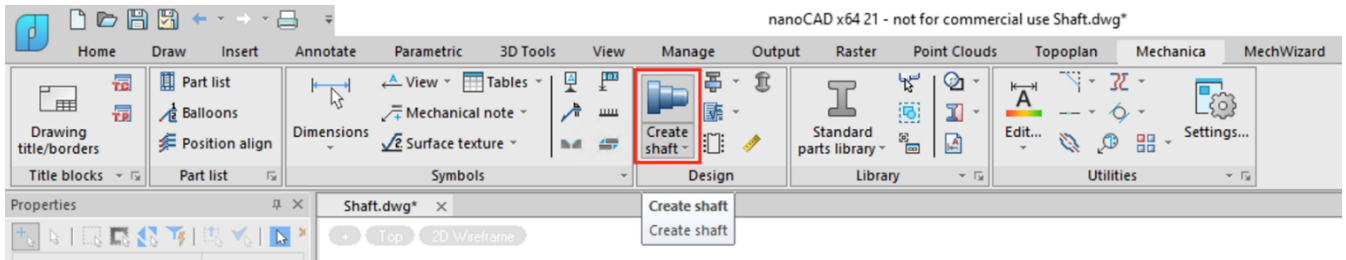

Fig. 1. The **Create shaft** button
1.1. In the **Design** group, click **Create shaft** (Fig. 1).